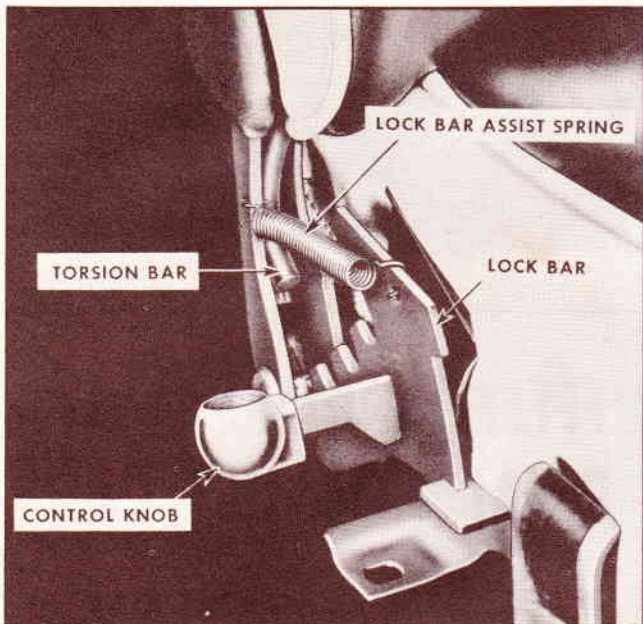

Fig. 2 Reclining Seat Back - Side View
3. Remove lock bar assist spring, Fig. 2.
6. With reclining seat back assembly in normal position, disengage seat back outer hinge arm torsion bar shown in Fig. 2.